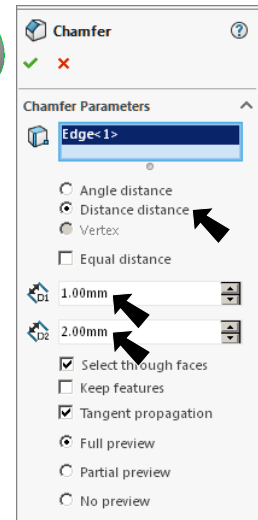

Fig. 12
Step 2. In the Chamfer Property Manager set: under Chamfer Parameters, **Fig. 12** select **Distance distance**